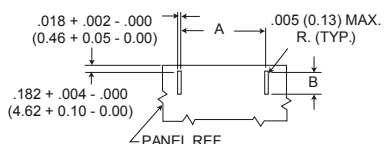

Figure 4
3. Figure 4 is for edge board mounting bracket or edgeboard clip assembly. The .184 + .002 (2.67 ± 0.05) dimension locates the MD socket insulator flush with the end of the board.